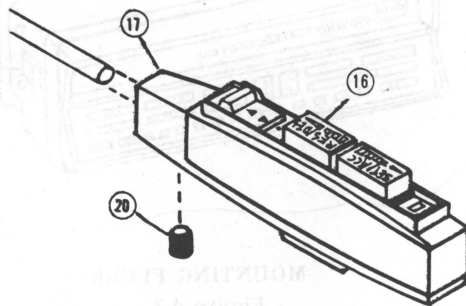

Figure 4.4
1. TURN SIGNAL ARM END MOUNTING—FIG. 4.4